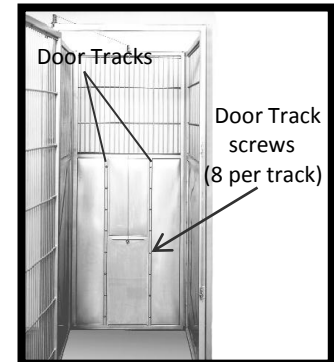

Figure 67: Guillotine Door tracks and screws
2. With a Phillips screwdriver, remove the eight screws holding the door track to the back panel (Figure 67).
5. With a Phillips screwdriver, remove all the screws holding both door tracks to the back panel (Figure 67), and remove the door tracks.